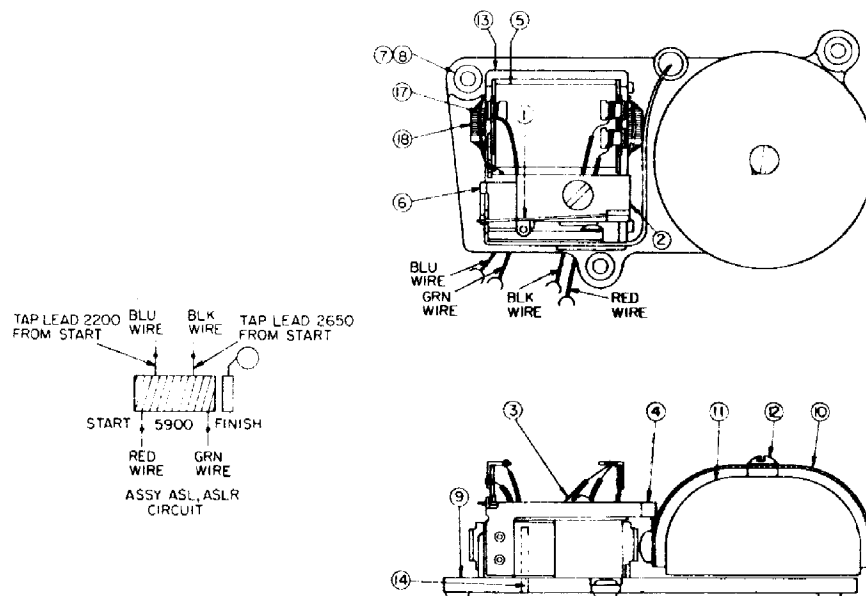

Figure 6. Type 46 Miniature Straight-Line Ringer.
8.01 The Type 46 ringer (Figure 6) is a miniature straight-line ringer, distinctly different from the other ringers in shape and size. This ringer is used in the Type 182, 182A, 186, 187, 192A, and 890 STYLELINE® telephone sets when straight-line ringing is desired. It is rectangularly shaped having a single gong construction with the resonator assembly hidden under the gong assembly. Positioned directly opposite the gong and resonator assembly are the armature and clapper assembly, coil assembly, magnet, bias spring and bias spring holder assembly. Attached to the plastic frame enclosing the coil assembly are four leads used for interfacing with the transmission unit. Equipped separate from the ringer assembly is a capacitor with two spade ended terminals for connections onto the transmission unit terminals. The complete component description and part numbers are listed in Table 19.
8.03 To assemble the Type 46 ringer (Figure 6), proceed as follows:
- Place the pole piece (item 13) and coil assembly (item 5) over the post just to the left of the magnet (item 6). Align the L-shaped portion of the pole piece to fit inside the small staked posts on the mounting base (item 9).
- Position the small clamp attached to the armature and clapper assembly (item 4) over the small pole opposite the magnet. (The south pole of the magnet must face the armature.)
- Place the bias spring (item 1) in the first notch of the bias spring holder (item 2). Position the hole on the extended flanges of the bias spring holder over the small pole separating the armature and magnet. Position the hole in the armature assembly over the protruding post and push downward to secure.
- Position the resonator assembly (item 11) over the mounting base post. Place the gong (item 10) over the resonator assembly. Install and fasten the gong and resonator assembly with mounting screw (item 12).
8.04 This adjustment applies only to the Type 46 Miniature Straight-Line Ringer (Figure 6). When shipped or moved the bias spring should be positioned in the high tension notch.